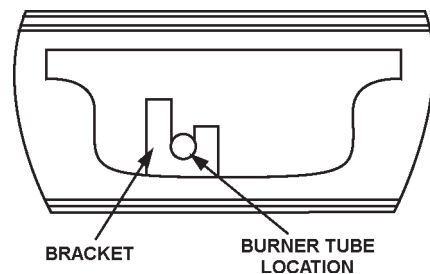

FIGURE 18.
22. Reinstall the burner assembly through the door opening being careful not to damage the door gasket on the studs. Position end of burner tube inside bracket as shown in Figure 18.